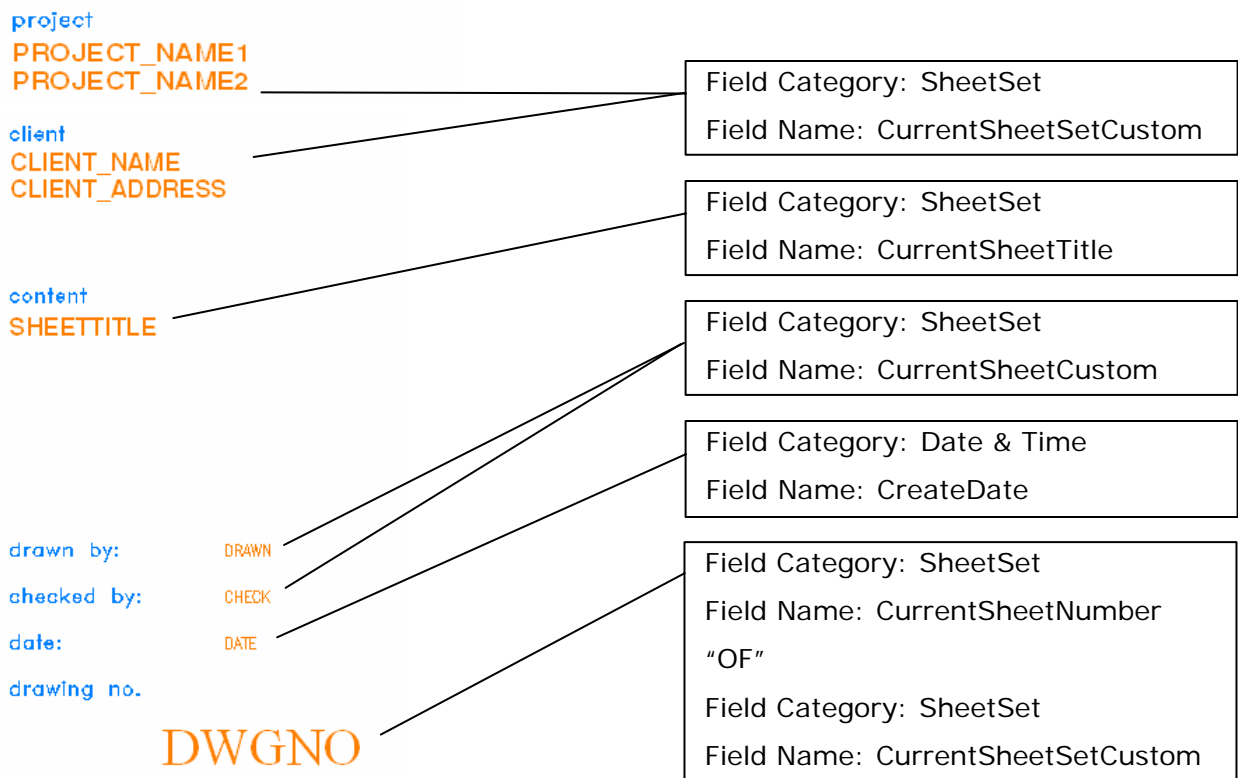

Figure 9.
- Select the field as indicated in Figure 9.